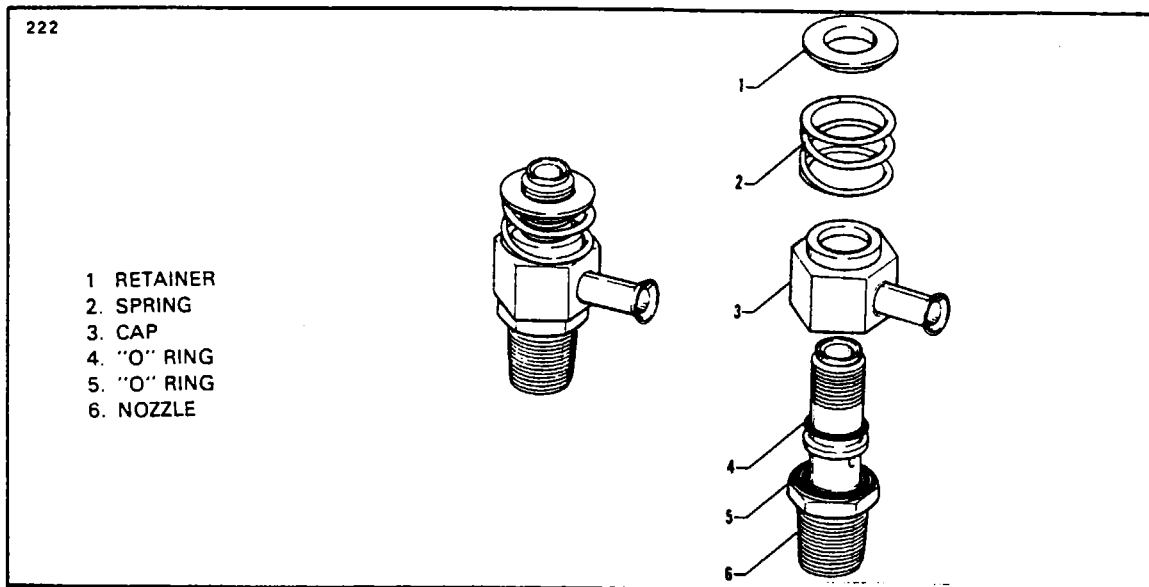

Figure 8-9. Fuel-Air Bleed-Nozzle
- c. Ascertain that the "O" rings are properly installed on the nozzle stem and install the nozzle shroud. (Refer to Figure 8-9.)